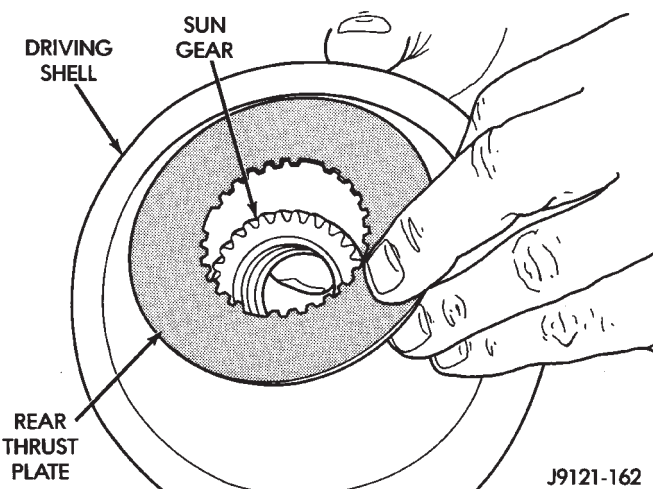

Fig. 154 Installing Driving Shell Rear Thrust Plate
(9) Hold sun gear in place and install thrust plate over sun gear at rear of driving shell (Fig. 154).